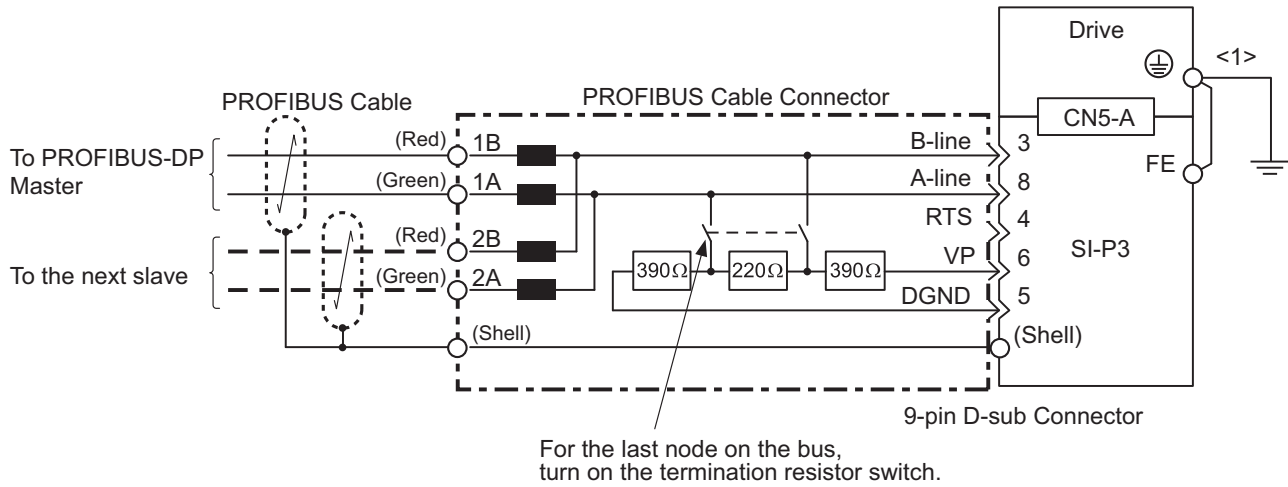

Figure 7 Option Connection Diagram
6. Connect the option to the network using a 9 pin D-sub connector as shown in **Figure 7**.
Termination resistors without inductors as shown in **Figure 9** can only be used for baud rates below 1.5 Mbps. Baud rates 1.5 Mbps and higher require termination with resistors and inductors as shown in **Figure 7**.